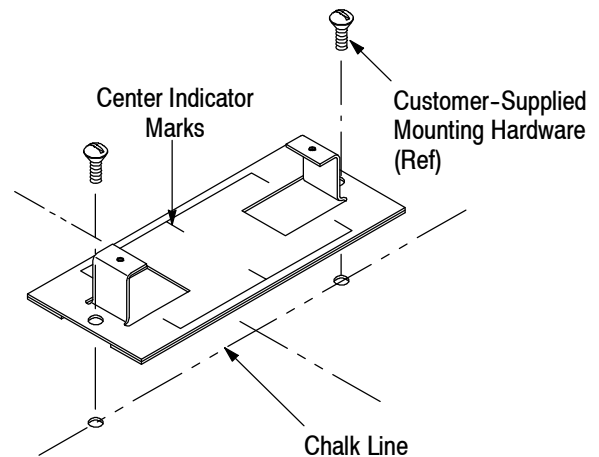

Figure 2
- Center the mounting plate on a chalk line using the center indicator marks. Secure the mounting plate to the floor using the foam tape—or if using mounting hardware, use the mounting plate as a template to mark the mounting hole locations. Prepare the surface (drill holes and vacuum debris); then, install the hardware. See Figure 2.